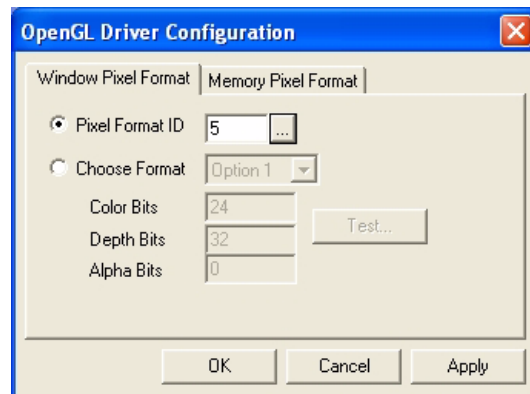

Figure 5-39: OpenGL Driver Configuration dialog box
4. In the OpenGL Driver Configuration dialog box (figure 5-39), select Pixel Format ID and enter this number.